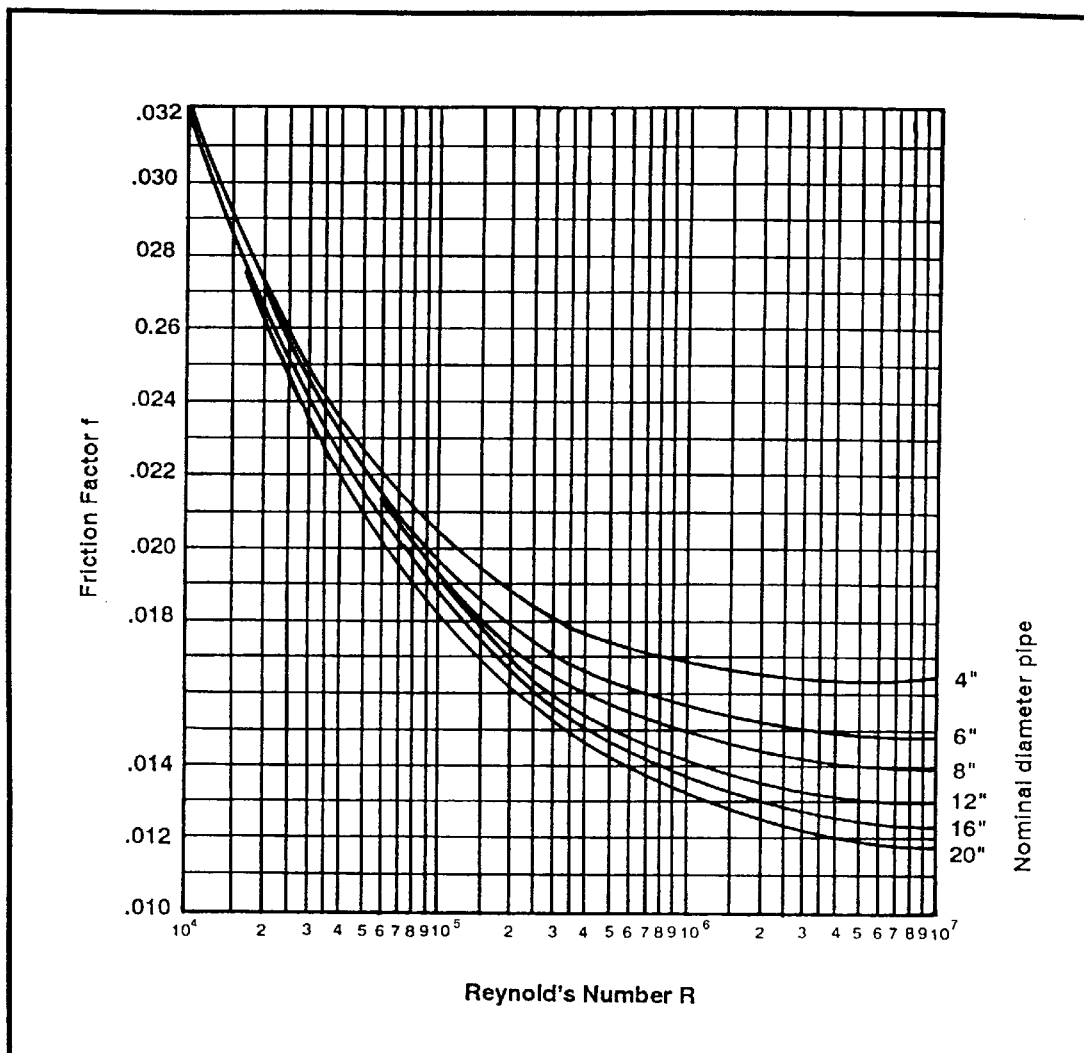

Figure 1-2. Friction Factor versus Reynold's number.
**Friction Factor (resistance to flow in pipeline operations).** After calculating the Reynolds number and changing to scientific notation, we can obtain a friction factor using Figure 1-2. Horizontally across the bottom are numbers in scientific notation, to the right and vertically is pipe diameters, to the left of the graph and vertically are the friction factors starting at .010 and ending with .032. Using our calculation  $1.44 \times 10$  to the 5th, locate this on the bottom horizontal line. The pipe diameter is 6.415 inches; move up the chart until the line intersects the pipe diameter curve and move to the left and read .0188 for the friction factor.
**Step 2:** find the friction factor using the Reynolds number. Figure 1-2. Locate  $5.36 \times 10^5$ , move up the chart to 8 inch pipe, move to the left and read .0216 or .022.
**Step 4:** Figure 1-2 = 42,196